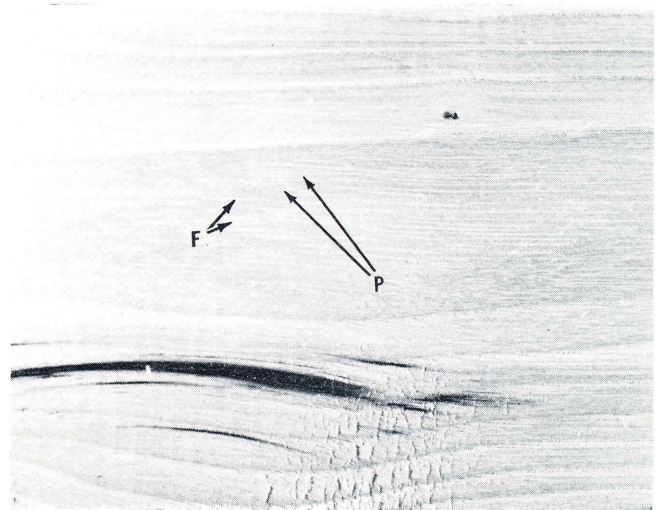

Figure 15—Hickory. Pores in narrow bands, P, separated by smooth hard surface, F.
19. Wood very hard and heavy, pores in earlywood not in continuous row along the ring, pores on tangential face in narrow bands or lines (See Fig. 15) **Pecan or Hickory**